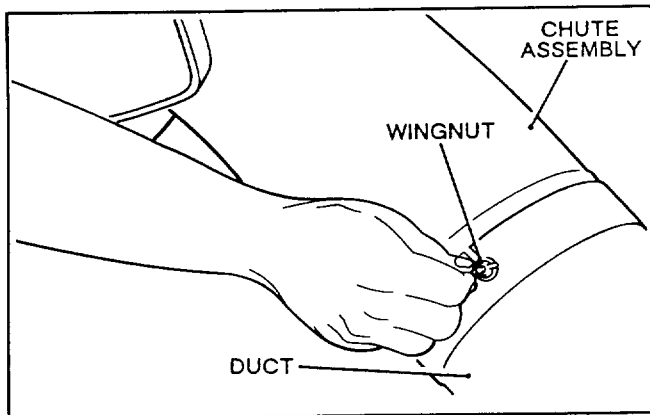

Figure 4
1. From inside of chute, push carriage bolt through square holes and loosely secure with wingnut. Repeat procedure on opposite side of chute (Fig. 4).
2. Sliding chute and duct together, line up slots and carriage bolts so they can be secured (Fig. 4). Tighten wingnuts.